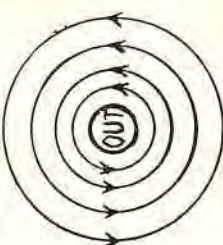

Fig. 6C
If the compass is placed above the wire, when looking at the end (B) (Fig. 6C), where the flow of current is coming out instead of going in, the lines-of-force will be whirling around the wire in a counter-clockwise direction, but the magnetic whirls are still clockwise following the direction of the flow of the current in a clockwise direction.